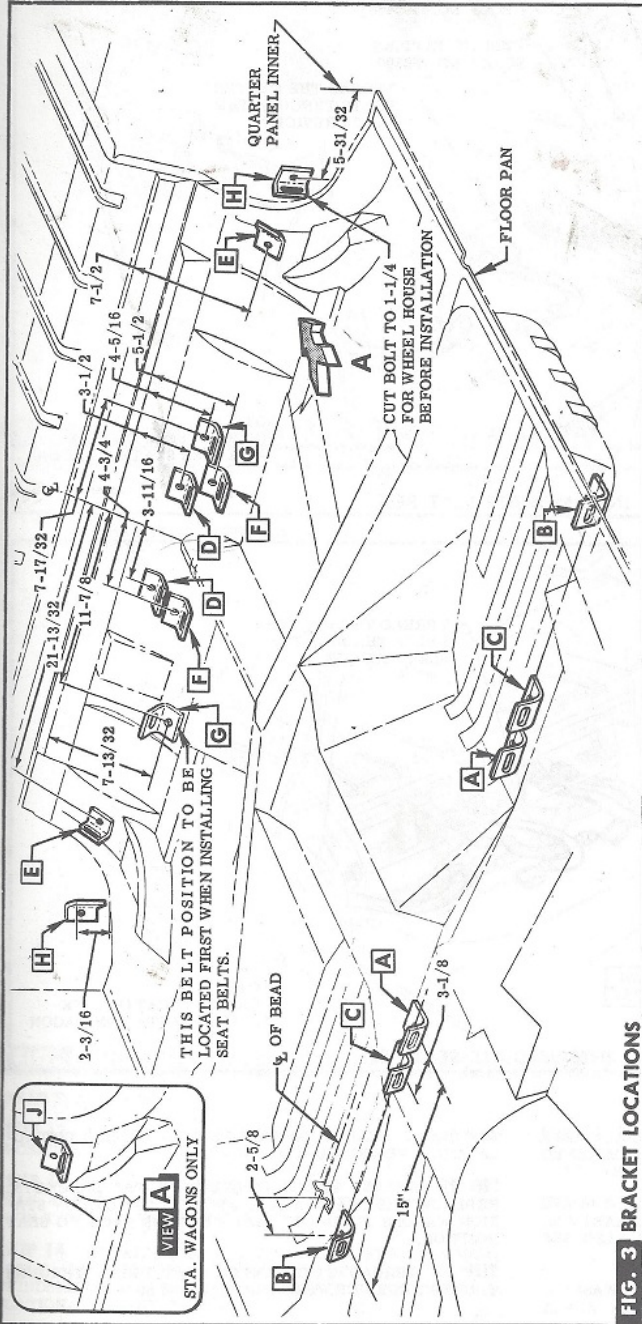

FIG. 3 BRACKET LOCATIONS
- STEP 2** LOCATE AND DRILL 13/32 INCH DIAMETER HOLES THROUGH THE FLOOR PAN AS REQUIRED. SEE CHART AND FIGURE 3.
STEP 8 LOCATE AND DRILL 13/32 INCH DIAMETER HOLES THROUGH THE FLOOR PAN AS REQUIRED. SEE CHART AND FIGURE 3. FOR STATION WAGONS ALSO SEE VIEW A.